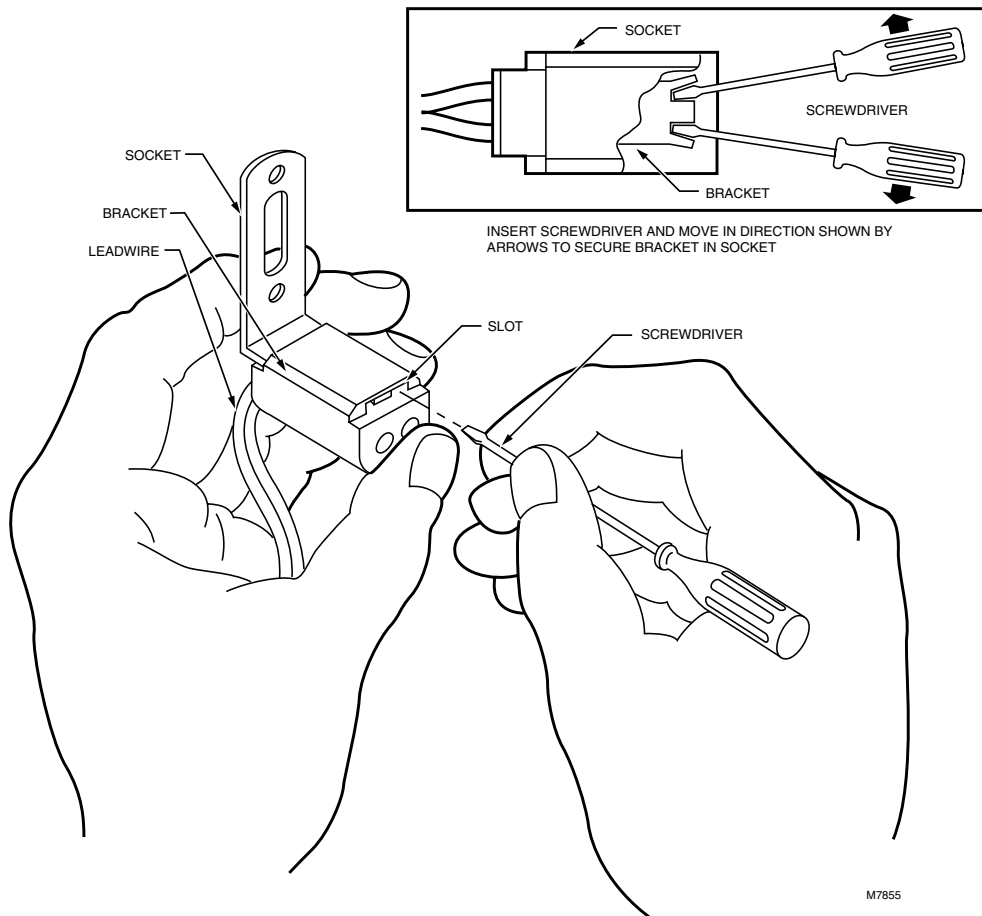

Fig. 4. Insert screwdriver to secure bracket in socket.
- ❶ Remove the cell from the socket.
- ❷ Insert the mounting bracket into the slot on the socket (Fig. 4) as far as it will go.
- While holding the mounting bracket in the slot, insert the screwdriver in the other end of the slot (Fig. 4). Bend the screwdriver, first to the left and then to the right, to crimp the end of the mounting bracket and hold it in position.